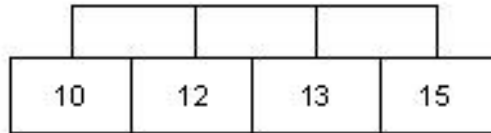

Figure 2 – Configuration 2
1.7 Perform a continuity check at the PAM side (top) of the terminal rail, to verify the following configuration (Figure 2):